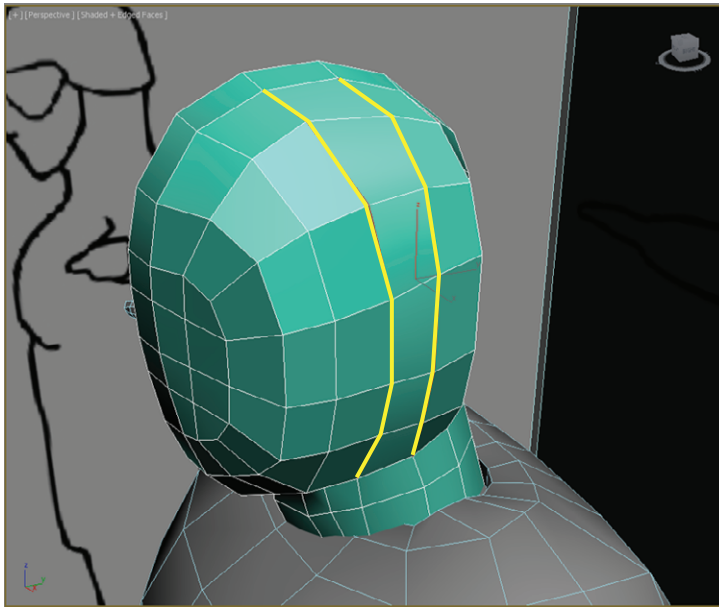

FIGURE 9.13 Select the two highlighted edges and use Bridge.
1. In Edge mode, select the edges around the ear and use Bridge to close the gap, as shown in Figure 9.13.